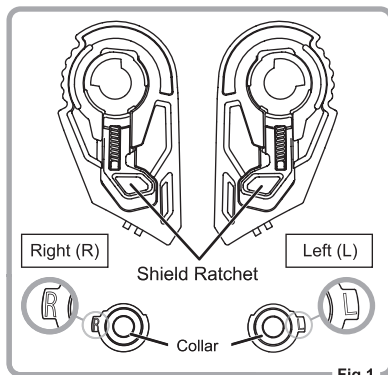

Fig.1
1. Check the side of the Shield Ratchet (Fig.1)
2. Place the hook of the Shield Ratchet (L) in the hole on the left side of the Chin Cover and attach the collar (L).